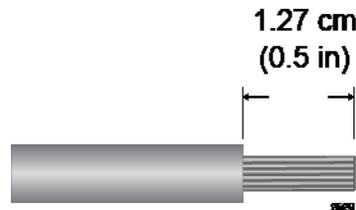

Figure 69. Stripping the Stranded Grounding Wire
1. Prepare an adequate length of stranded 10 AWG grounding wire by stripping it as shown in Figure 69.